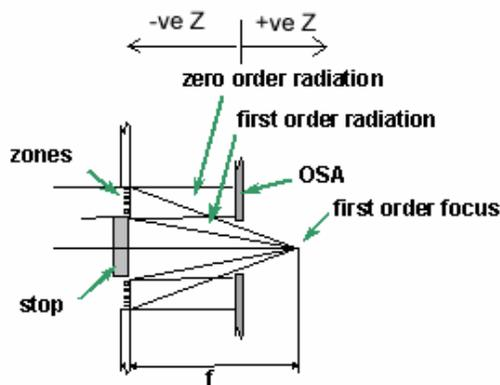

Fig. 2.1 Geometry of STXM.
Fig. 2.1 shows the diagram of the x-ray microscope (geometry of main components; Zone Plate, OSA, sample). Zone Plate (ZP) is the diffractive optics to focus. At 532STXM a Fresnel ZP is used and the diffraction efficiency for first order is about 10%. Most of the light is un-diffracted (zeroth order) and this must be excluded as much as possible since, if it is not blocked, it provides an illumination at reduced intensity of the size of the ZP (~200 μm). Even so there is always an irreducible zero-order contribution which forms a ‘halo’ of the size of the ZP, with an integrated strength of 1-5% of the focused beam intensity (see **Fig. 2.2**). In addition, depending on the quality of alignment of the OSA and the central stop, there can be some second-order signal (light in the focused spot at twice the photon energy). By aligning the Central stop (CS) and Order Sorting Aperture (OSA) properly, the non-first order light can be minimized and higher contrast / more quantitative images are obtained. In order to get the minimum amount of zero order light the center of the OSA must be aligned to the center of the ZP to within 5 μm . Since the OSA position is not very stable, it is necessary to check the OSA every 4-6 hours, or whenever critical measurements are being made.